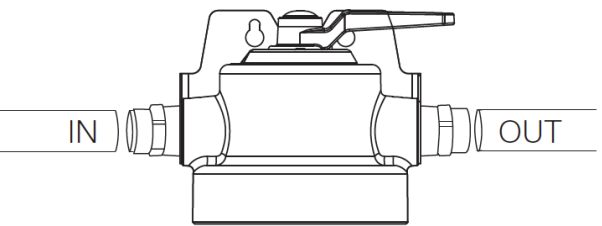

Figure 4
7. Insert pipe into filter head fitting making sure end of pipe is firmly seated to backstop. Connect pipe from water supply to "IN" port (see Figure 4.)